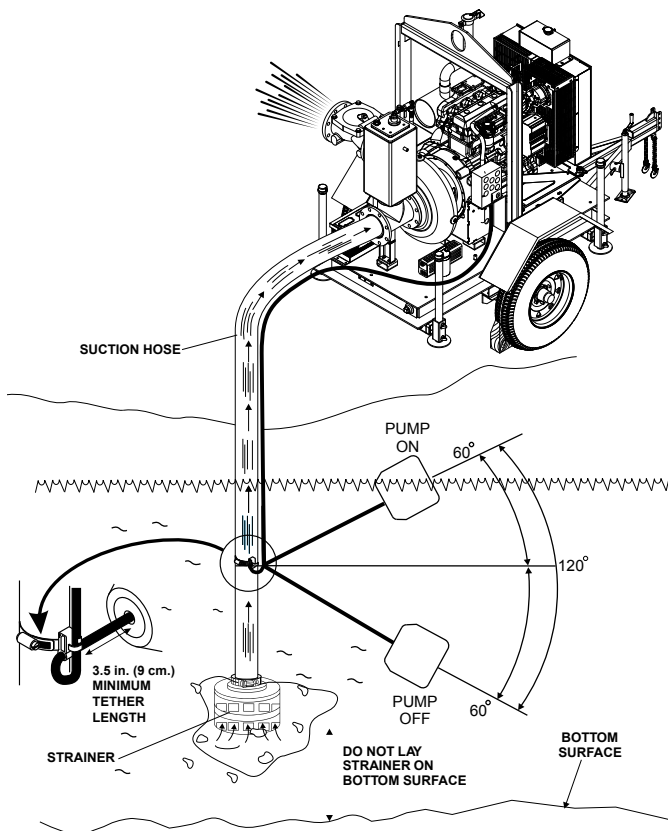
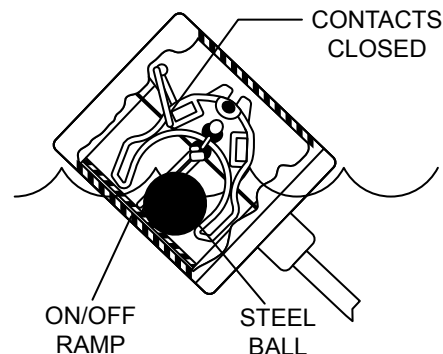
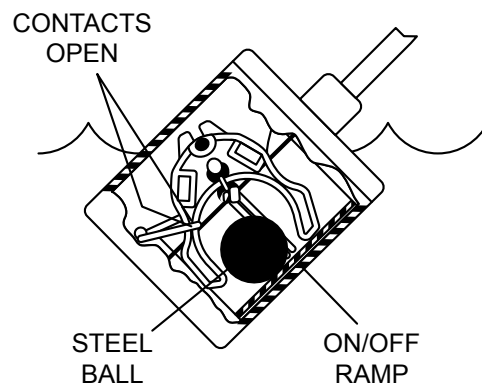

Figure 11. Pumping Range (Float Switch)
Figure 12. Float Switch (Closed)
Figure 13. Float Switch (Open)
The mechanical float switch control will turn **ON** (closes) when the float tips 45° above horizontal, indicating a high level. It turns **OFF** (opens) when the float switch drops 45° below horizontal. Reference Figure 12 and Figure 13. Maximum pumping range is 120 degrees. See Figure 11 below.
1. Determine the required **cord tether length** as shown in Figure 11 and Table 7.
2. Place the cord into the clamp as shown in Figure 11.